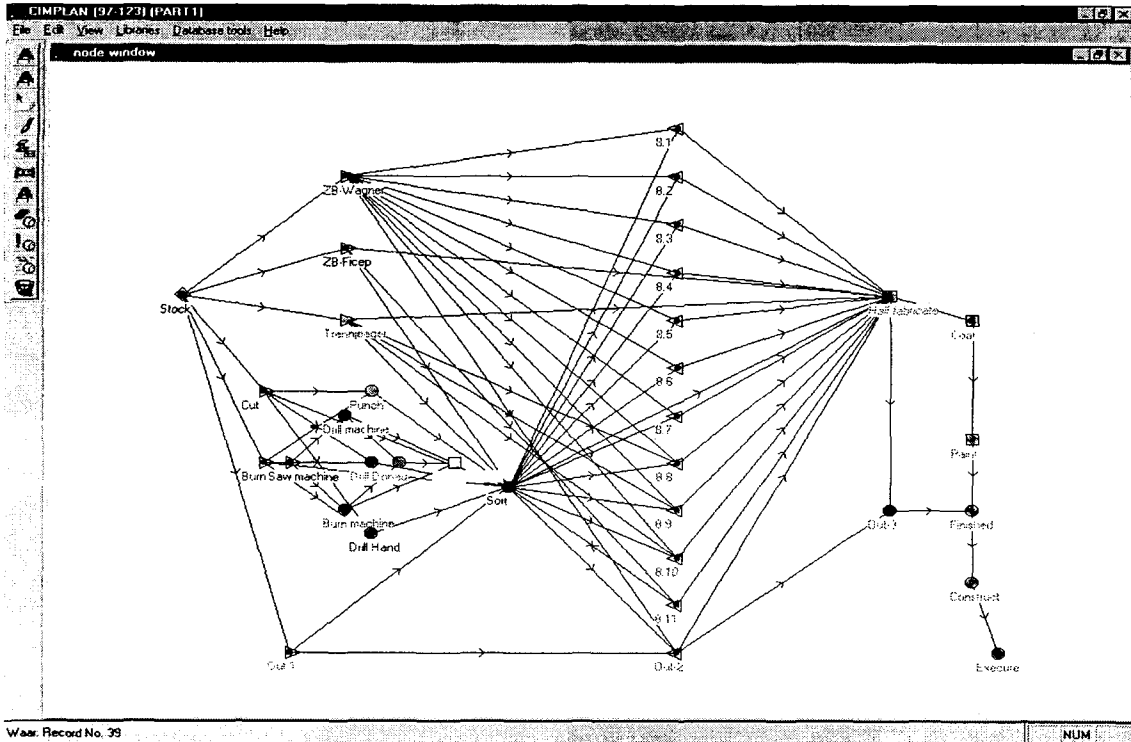

Fig. 11 CIM-Plan
- Modern user interface (CIM-Plate and CIM-Plan are native Windows products, CIM-Steel is being rewritten in Windows environment) with link to MS- EXCEL and other spreadsheets (Fig. 11)